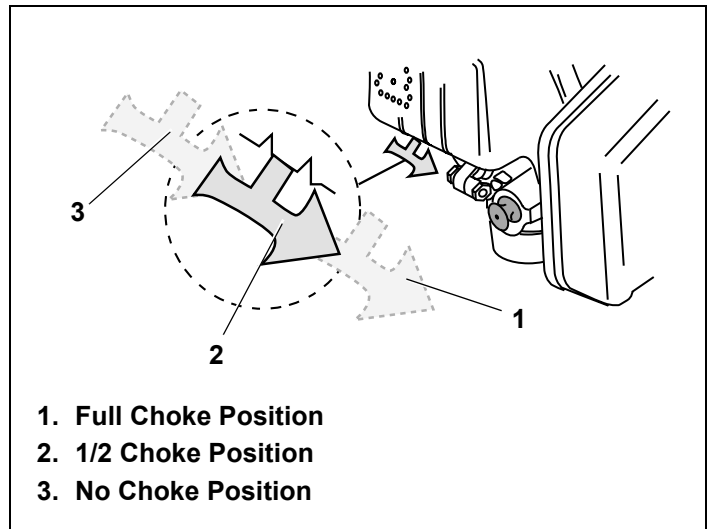

Figure 16. Engine Choke Positions
2. Move Choke Control to "FULL CHOKE" position. See Figure 16.
If restarting warm engine after a short shutdown, move Choke Control to "NO CHOKE" position. See Figure 16.